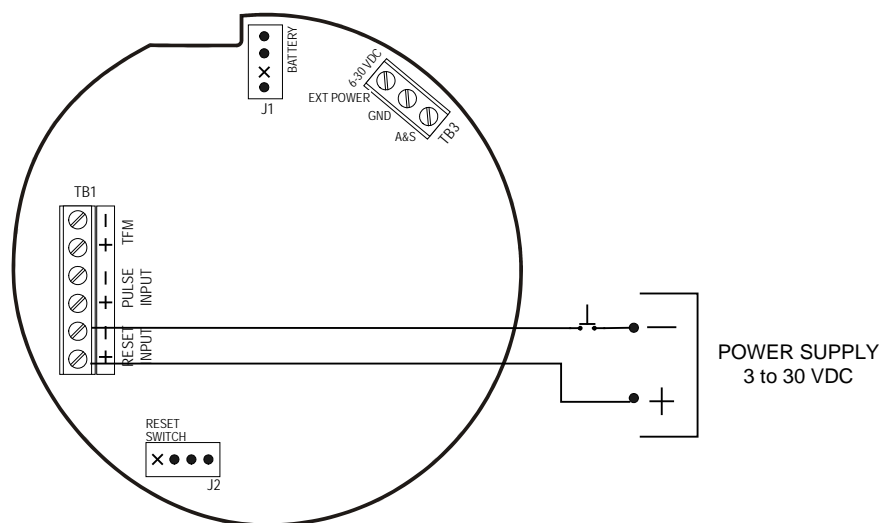
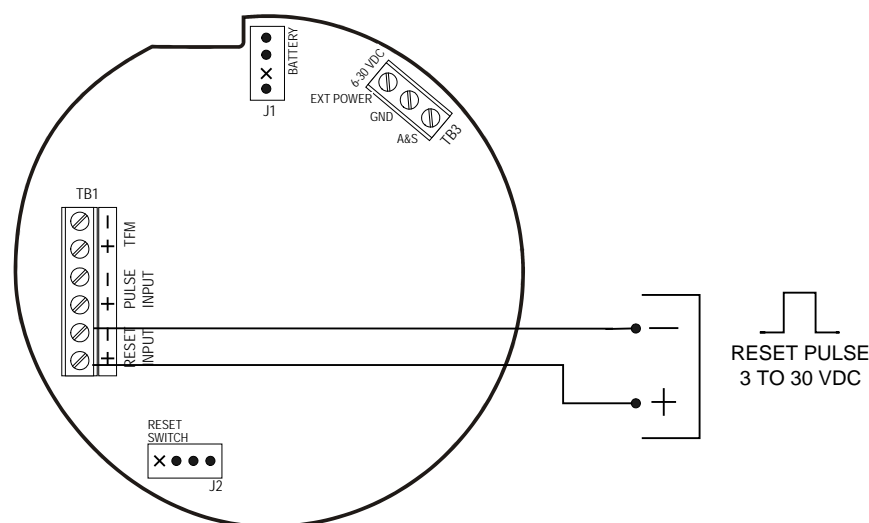

Figure 2.11—Reset input wiring (when power supply and reset switch are in a safe area)
Figure 2.12—Reset pulse input wiring (when pulse generator is in a safe area)
7. Connect wiring for the remote reset input to terminal block TB1, if appropriate. See Figure 2.11, page 23 and Figure 2.12, page 23.
The remote reset input allows the operator to reset the accumulated volume on the MC-III EXP to zero without opening the enclosure. This input is optically isolated. The input is shown connected in two ways, with a power supply and switch in a safe area (Figure 2.11), and with a pulse generator in a safe area (Figure 2.12). The remote reset input can also be controlled with an optional explosion-proof switch mounted in the top of the enclosure. See Explosion-Proof Reset/Control Switch, page A-1, for installation and wiring instructions.